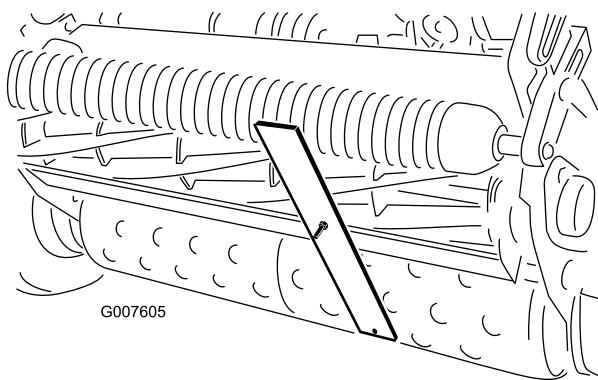

Figure 43
4. Hook the screw head on the cutting edge of the bedknife and rest the rear end of the bar on the rear roller (Figure 43).